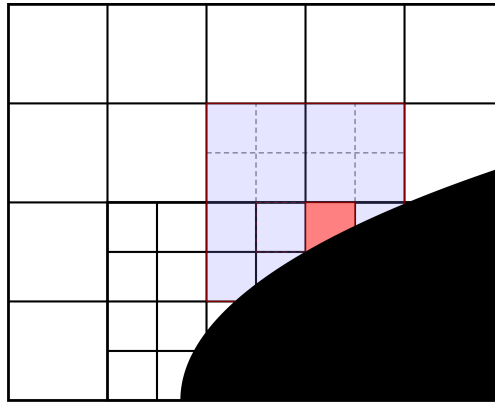
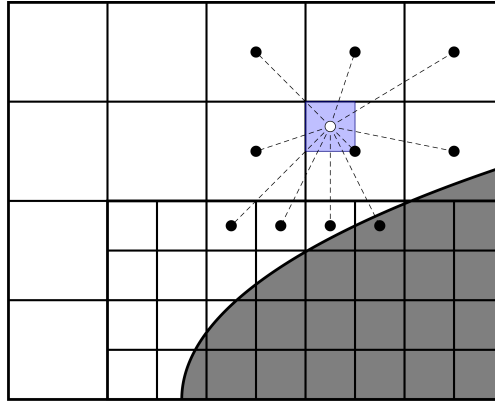

Fig. 3.6.3: Example of the region of a second order stencil for the Laplacian operator with second order gradient reconstruction on the embedded boundary.
Fig. 3.6.5: Multigrid interpolation for refinement boundaries away from and close to an embedded boundary.
Note that the gradient reconstruction can end up requiring more than one ghost cell layer near the embedded boundaries. For example, Fig. 3.6.3 shows a typical stencil region which is built when using second order gradient reconstruction on the EB. In this case the gradient reconstruction requires a stencil with a radius of 2, but as the cut-cell lies on the refinement boundary the stencil reaches into two layers of ghost cells. For the same reason, gradient reconstruction near the cut-cells might require interpolation of corner ghost cells on refinement boundaries.
1. Cut-cell stencils may have a large radius (see Fig. 3.6.3) and thus require more ghost cell layers.
Figure Fig. 3.6.5 shows a typical interpolation stencil for the stencil in Fig. 3.6.3. Here, the open circle indicates the ghost cell to be interpolated, and we interpolate the solution in this cell using neighboring grid cells (closed circles). For this particular case there are 10 nearby grid cells available, which is sufficient for second order interpolation (which requires at least 6 cells in 2D).